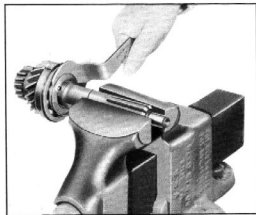

Fig. 7—Retaining Nut and Oil Slinger Removing Tool
1. Place the clutch gear in a vise and remove the bearing retaining nut and oil slinger, using special wrench J-933, Fig. 7. The retaining nut and oil slinger is a one-piece steel casting machined with a left-hand thread and is locked in place on the clutch gear shaft by being staked into a hole provided for that purpose.